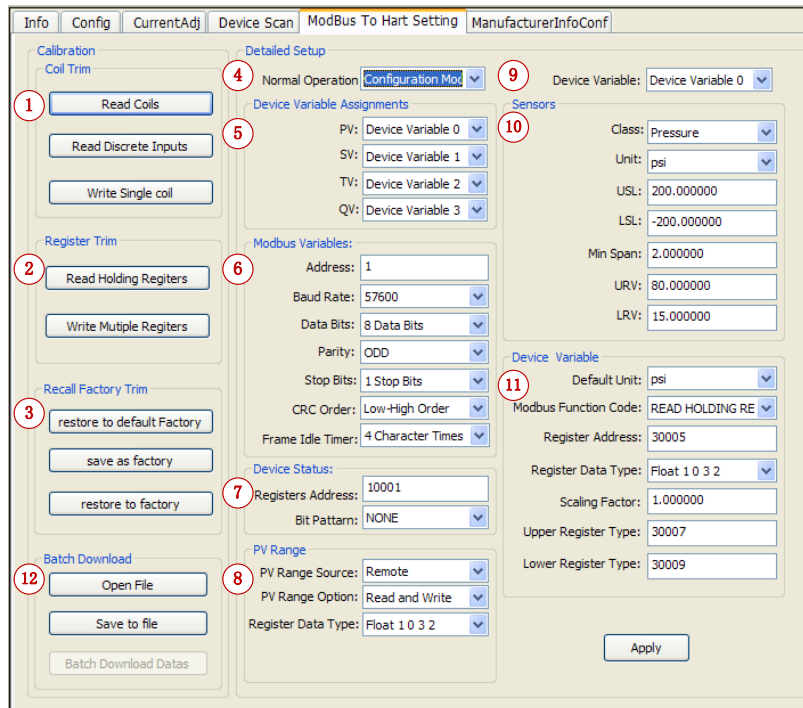

Figure 6 Gateway Configuration
| Figure 6 Gateway Configuration | 6 |
When G0310 MODBUS to HARTgateway is online on HartMPT, mouse left-click online devices, then tabcontrol will show related devices. Click “Modbus to HART Setting”, and for the first time, it will take about 1 min to read device information and then it will show gateway configuration function, as shown on figure 6. .
1. Find “detailed setup”->“normal operation”, as shown on figure 6, part 4. There are two operation modes, one is “configuration mode”, and the other is “normal operation”.
1. Choose drop-down box of PV in “Device Variable Assignments”, as shown in Figure 6 part 5;
1. Find “ModbusVariables”->“Address”, as shown in figure6, part 6, address range is 1~255;
1. Choose “ModbusVariables”->“Baud Rate”, as shown in figure 6, part6, choose baud rate value and click Set and Send button.it supports: 1200, 2400, 4800, 9600, 19200, 35700, 38400, 57600.
1. Choose drop-down box of “ModbusVariables”->“Data Bits”, as shown in figure 6, part6, choose supported data bits, 7 or 8.
1. Choose drop-down box of “ModbusVariables”->“Parity”, as shown in figure 6, part6, mode supported : Odd parity check, even parity check and no check;
1. Choose drop-down box of “ModbusVariables”->“Stop bits”, as shown in figure 6, part6, stop bits supported : 1 stop bits and 2 stop bits.
1. Choose drop-down box of “ModbusVariables”->“CRC order”, as shown in figure 6, part6, stop bits supported : Low-high and High-low.
1. Choose drop-down box of “ModbusVariables”->“4.3.7 Frame Idle Timer”, as shown in figure 6, part6, interval time range is: 4~10.
1. Find “device status”->“register address” input box, as shown in Figure 6, part7, address range is 1~65536.
1. Choose drop-down box of “device status”->“Bit Pattern”, as shown in Figure 6, part7. Bit range is 0~16. 0 means no device state feedback.
1. Choose drop-down box of “PV range”->“PV range source”, as shown in figure 6, part8, including local and long-distance.
1. Choose drop-down box of “PV range”->“PV range option”, as shown in figure 6, part8, including read only and read-write.
1. Choose drop-down box of “PV range”->“Register Data Type”, as shown in figure 6, part8, including read only and read-write.
User can set related parameters of device variables, including sensor and corresponding device variables parameter. In default there are 6, namely “device variables: 0”~“device variables: 5”. It is device variables: 0 in default under system initialization, as shown in figure 6, part 9. When device variables change in choice box, system will refresh corresponding “sensor” and “device variable” parameter. After the modification, system will reminder to save data or not if user switch to other device variables without saving. Click “yes” to save it and click “no” means the contrary.
1. Choose drop-down box of “Sensor”, as shown in figure 6, part 10.
1. Choose drop-down box of “Device Variable”, as shown in figure 6, part 11.